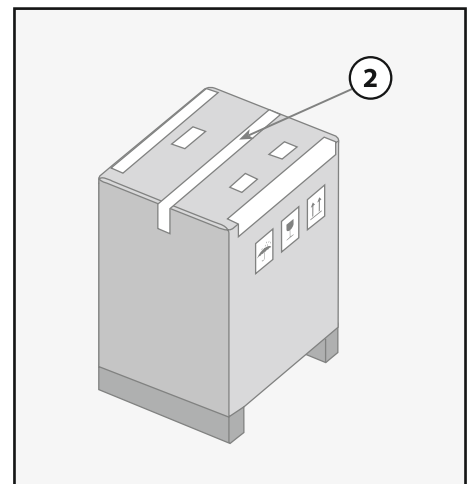

Figure 2.5: Open top carton.
2. Open the top carton by cutting the adhesive tapes (see Figure 2.5).